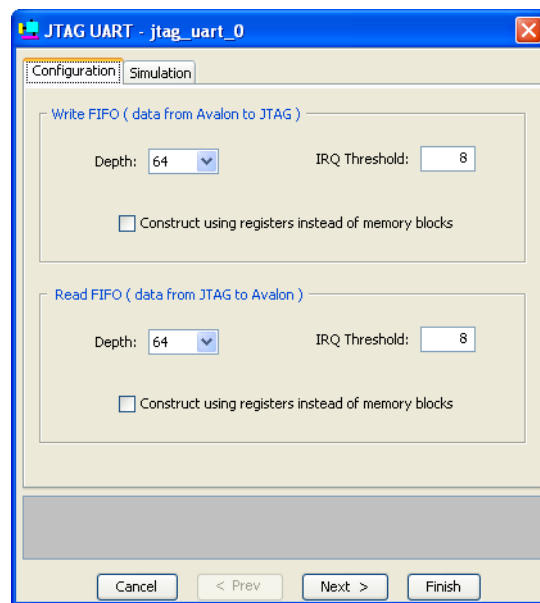

Figure 12. Define the JTAG UART interface.
- Select **Avalon Components > Communication > JTAG UART** and click **Add** to reach the JTAG UART Configuration Wizard in Figure 12